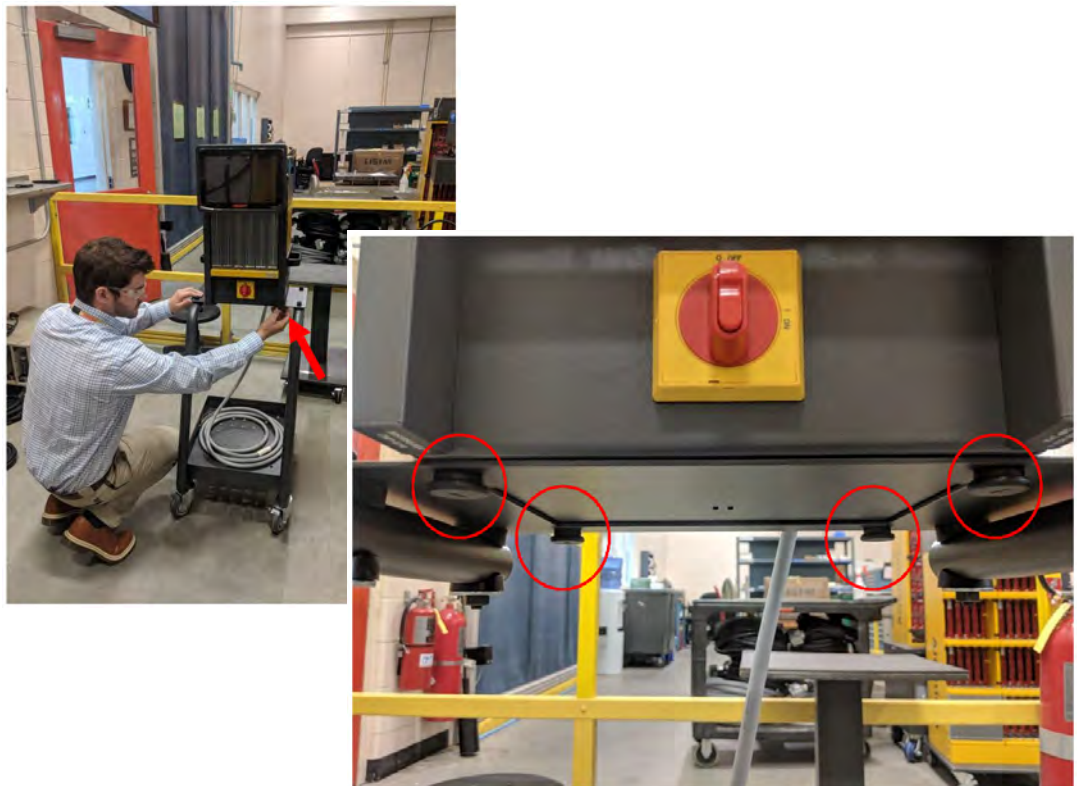

Figure 16-52 Install the Leveling Pads
6. With the Neo5 controller in the center of the mobile stand, put the four leveling pads through the holes and firmly tighten by hand (refer to Figure 16-52).